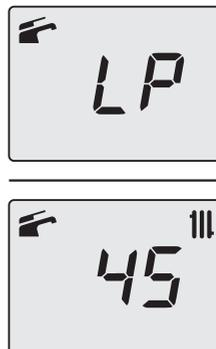

Fig. 10.24
- Press keys 13 and 15 (Fig. 10.21) at the same time until the LCD display displays the letters **LP** that alternate with the heating water temperature value (e.g. **45**), indicating the activation of the “flue sweep function” at minimum output (Fig. 10.24).